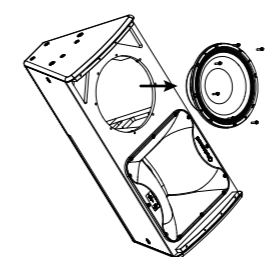

Fig. 2
3. Remove and disconnect the bass driver (fig 2) to access the compression driver retaining brace, making a note of the bass driver polarity for later reconnection.